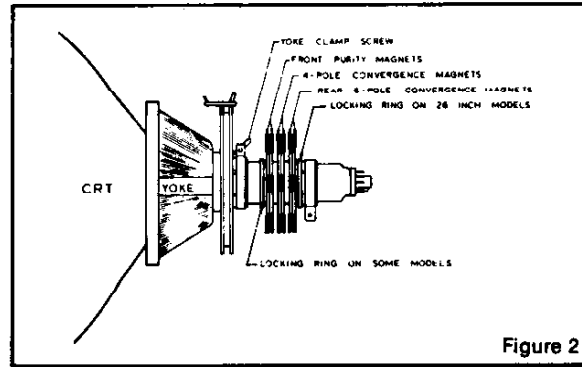

Figure 2
- 1.1 Loosen yoke retaining clamp (figure 2), remove adhesive material fixing wedges to CRT. Remove wedges completely and clean off dried adhesive from picture tube and wedges.
NOTE: Static convergence is achieved by four magnets located on the neck, nearest the base of the picture tube. Fig. 2. The middle pair of magnetic rings are adjusted to converge the blue and red crosshatch lines. The rear pair of convergence rings (closest to the base of the picture tube) are adjusted to converge the magenta (blue/red) to the green crosshatch lines. Dynamic convergence is achieved by tilting the deflection yoke up-down and left-right.